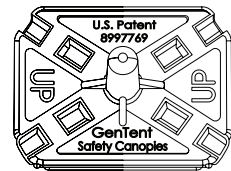

Fig. 3.1
- b. Insert the first Frame Rod into the Center Connector, being sure it is seated all the way into the Center Connector. (Fig. 3.1) **Always insert the Frame Rod into the Center Connector before inserting it into the Extender Arms.**